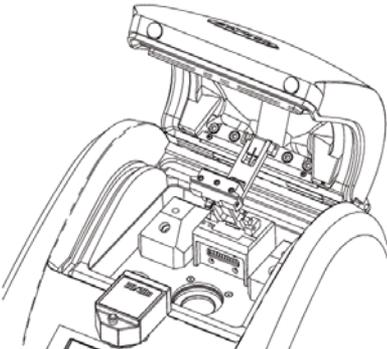

Figure 13
3. Insert the Light Standard into the sample compartment. (See Figure 13 and 14.)